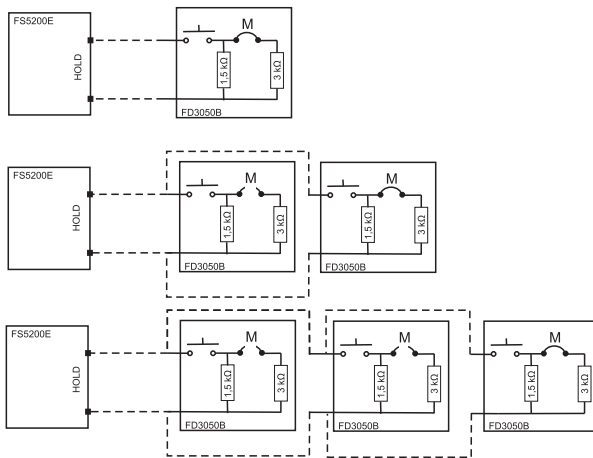

Fig.2a/2b/2c
The button has one normally open contact and built-in resistors of 1,5 kΩ and 3 kΩ. The 3 kΩ resistor is connected through a bridge (pos.8, fig. 1a). When pressing the button, the contact is closed and commutates circuit through the resistors and the bridge. When the button is not the last one (i.e. there are buttons of the same type after it - fig.2b, 2c) it is necessary to cut the bridge (pos.8, fig.1a). When the button is located at the end of the line or we have only one button on the line (fig.2a), the bridge is not cut.